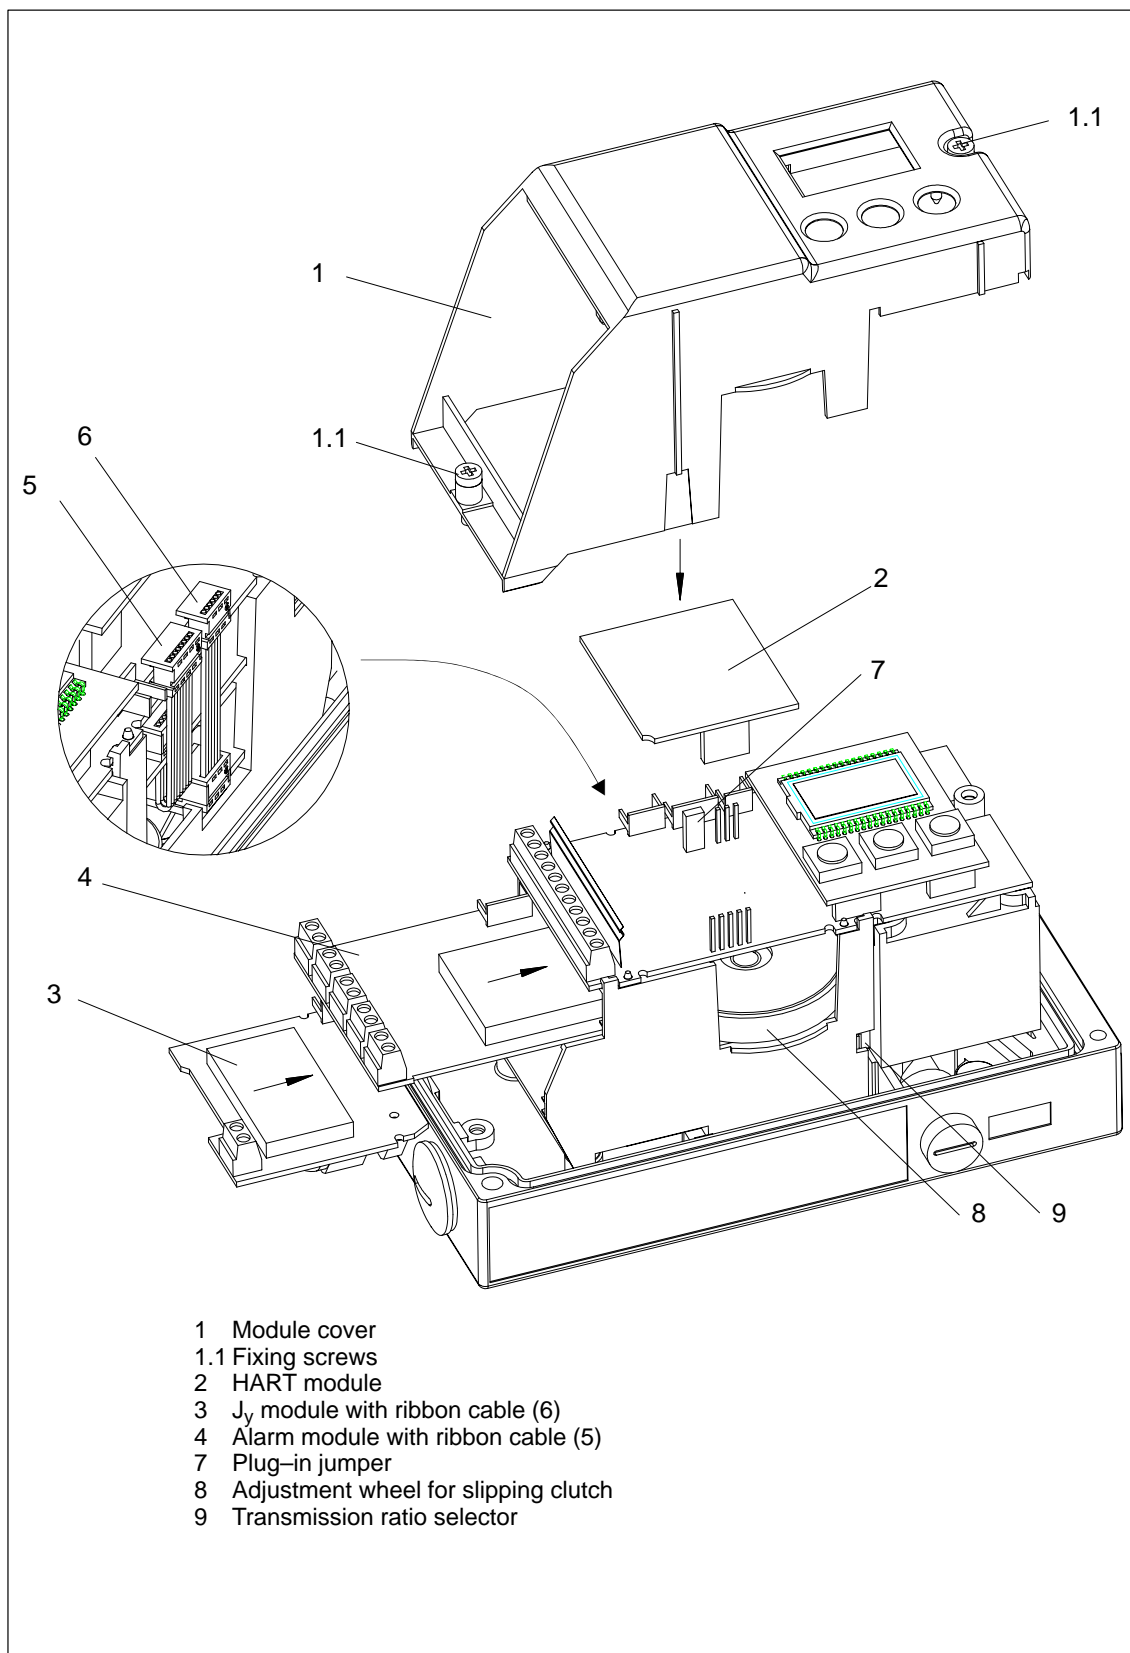

Fig. 2-12 Installation of options, **devices with PROFIBUS PA**
The optional modules are protected and mechanically fixed by a module cover ((1), see Fig. 2-12)
The HART module (2) is plugged onto the post connectors on the motherboard to the left of the display (see Fig. 2-12). Before you do this you must first remove the plug-in jumper (7) on the motherboard. When plugging-in the module make sure the connector coding is correct.
Installation	<p>The alarm module is slotted into the rack under the motherboard as far as it will go and connected to the motherboard via an 8-core ribbon cable (5), which is supplied (see Fig. 2-12).</p>
Installation	<p>The J_y module is inserted into the slot of the rack as far as it will go and connected to the motherboard using the 6-core ribbon cable (6) supplied (see Fig. 2-12).</p>